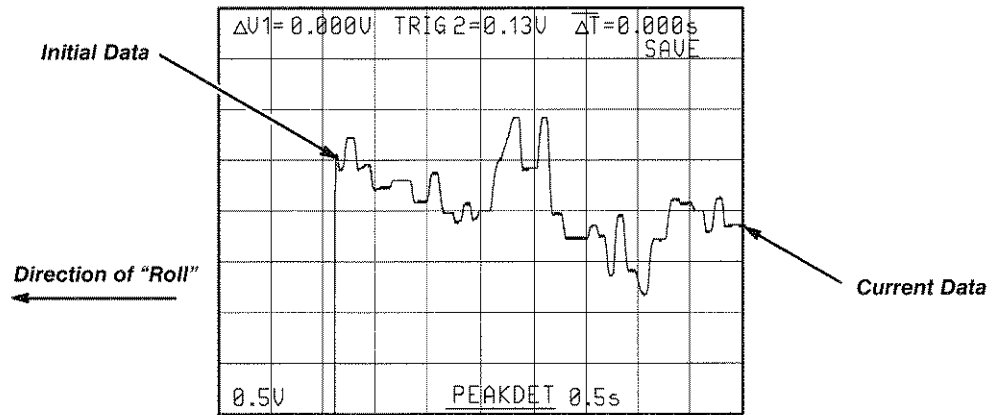

Figure 3-7: Roll Mode
- Step 4:** Note that the trace “rolls” across the screen from right to left (Figure 3-7) and does not permit any trigger event to interrupt the display.